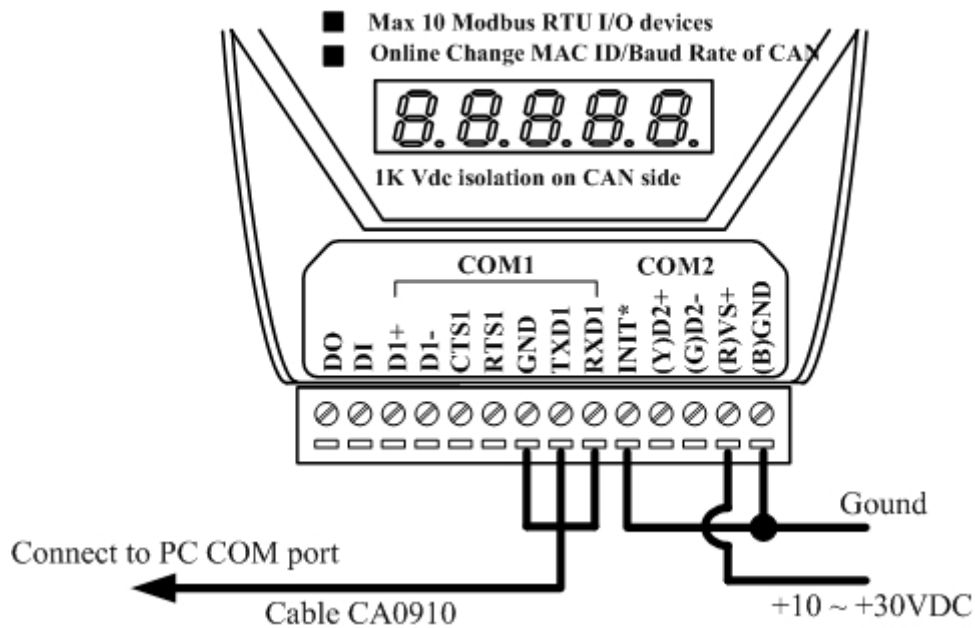

Figure 6-15. Wire Connection of the I-7242D
**Step 1:** Before you use this software, turn off the I-7242D. Connect the INIT\* pin with the GND pin of the I-7242D as figure 6-15.